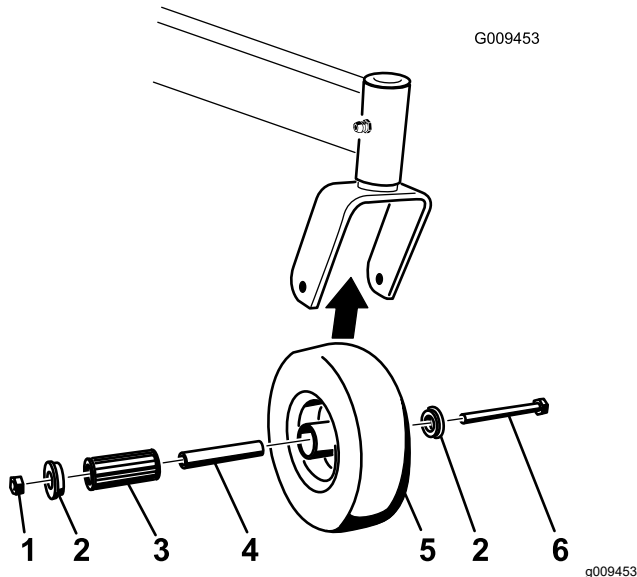

Figure 61
1. Remove the locknut and wheel bolt holding the caster wheel to the caster fork (Figure 61).
2. Remove 1 bushing, then pull the spanner bushing and roller bearing out of the wheel hub (Figure 61).
3. Remove the other bushing from the wheel hub and clean any grease and dirt from the wheel hub (Figure 61).
Note: Replace any damaged or worn parts (Figure 61).
5. Place 1 bushing into the wheel hub (Figure 61).
6. Grease the roller bearing and spanner bushing, and slide them into the wheel hub (Figure 61).
7. Place the second bushing into the wheel hub (Figure 61).
8. Install the caster wheel into the caster fork and secure it with the wheel bolt and locknut (Figure 61).
9. Tighten the locknut until the spanner bushing bottoms against the inside of the caster forks (Figure 61).